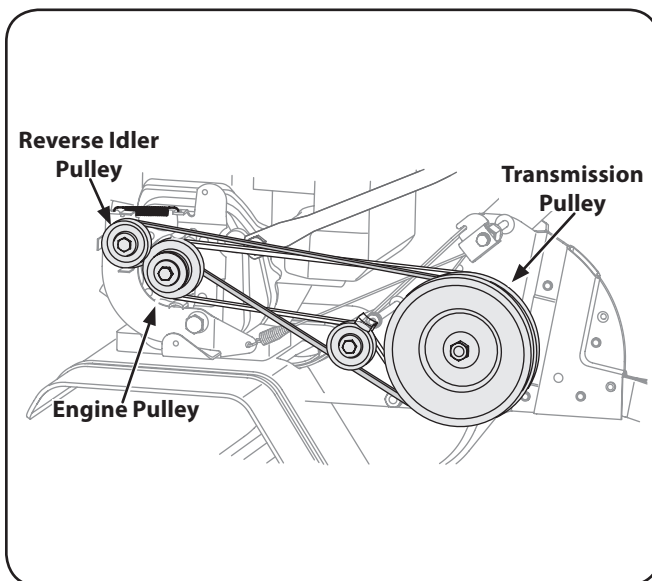

Figure 7-2
3. Remove the belt from the transmission pulley and then from around the reverse idler pulley. See Figure 7-2.
4. To reassemble the new belt, follow the instructions in reverse order. Be sure to place the wider side of the belt against the transmission and the idler pulley while the slimmer side goes over the engine pulley. See Figure 7-2.
NOTE: Upon reassembly, make certain the belt is routed over the idler pulley and inside of the belt keepers by the engine pulley. See Figure 7-2.